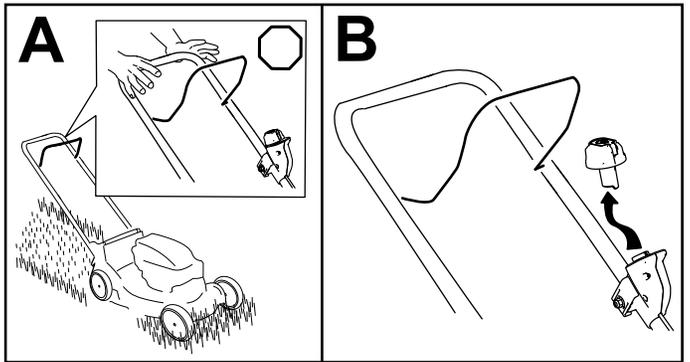

Figure 11
1. Release the blade-control bar (A of Figure 11).
2. Remove the electric-start button from the electric starter (B of Figure 11).